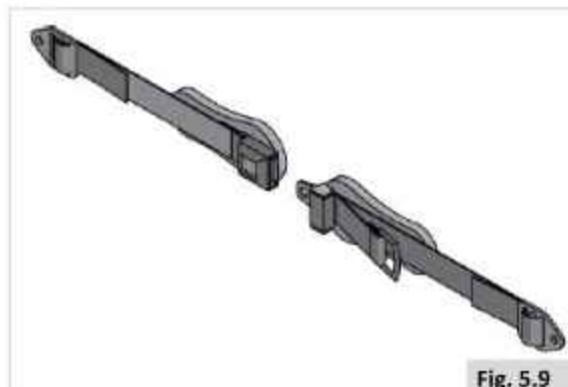

Fig. 5.9
5.4 Lap strap / seating positioning belt (Fig 5.9)